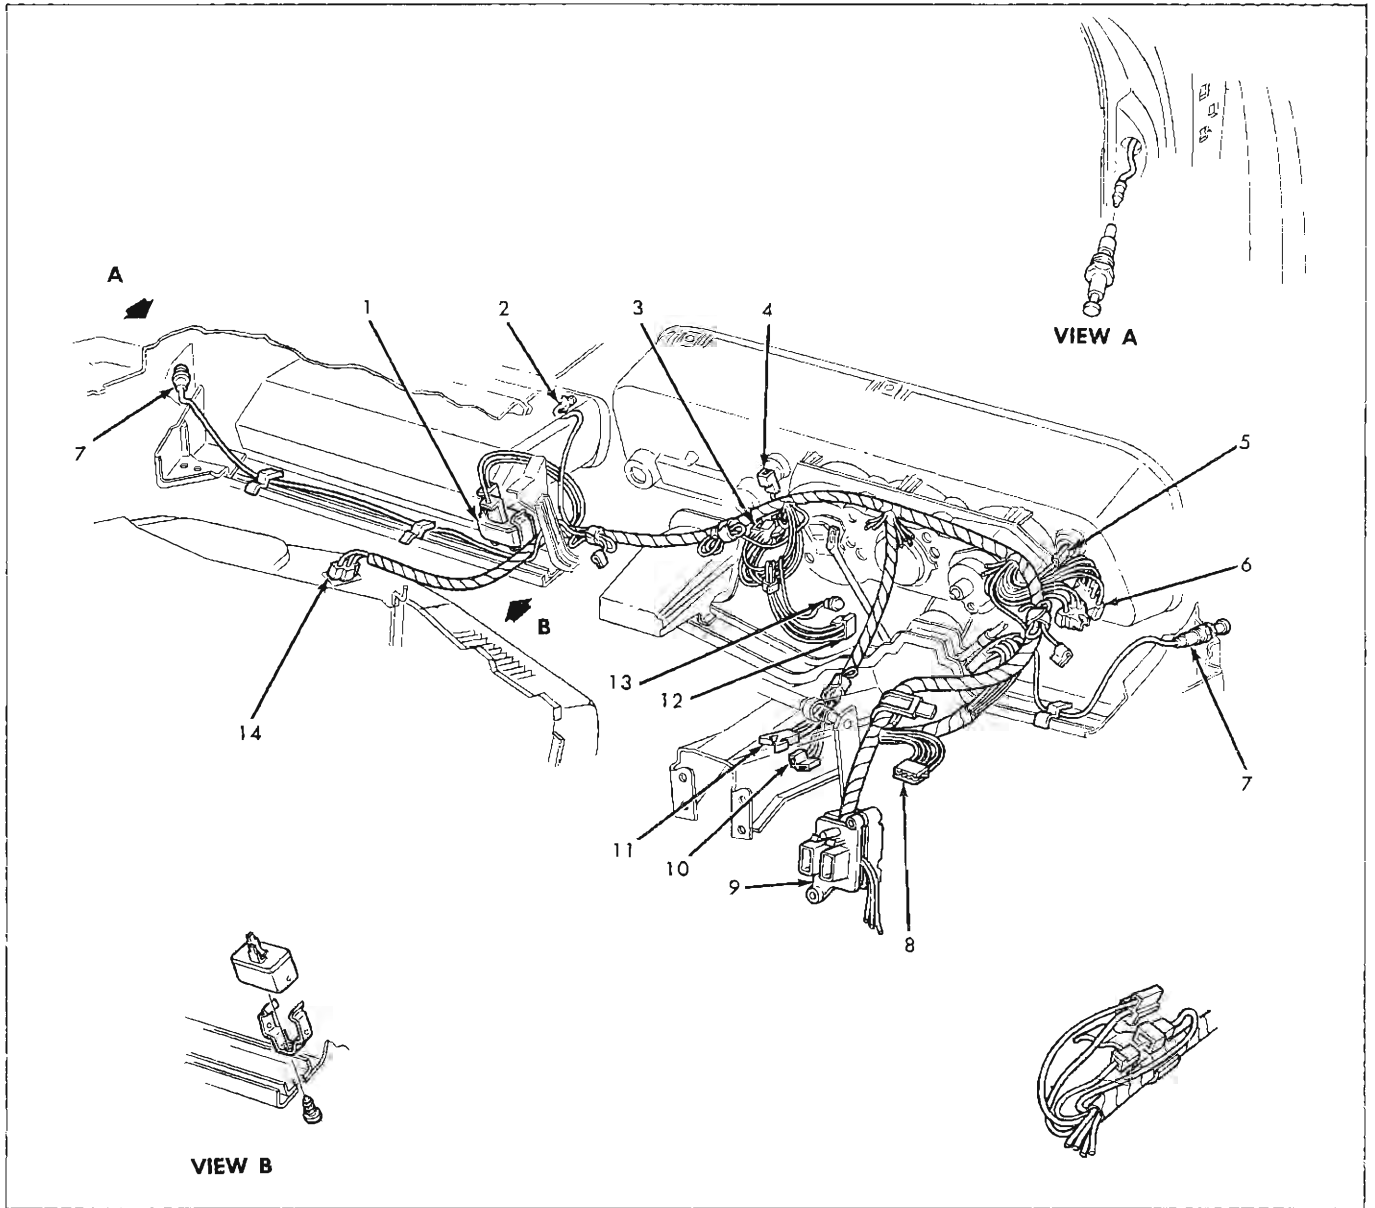

Fig. 34—Instrument Cluster Wiring
All indicator and cluster illuminating lamp bulbs may be replaced without removing the cluster from the vehicle. The lamp sockets are clip retained and may be quickly snapped in or out of position. Refer to Figure 34 for cluster wiring connections.
5. Disconnect all cluster indicator and illumination lamps, other instrument cluster harness assembly wiring connections and two harness retaining clips from back of cluster panel (fig. 34).